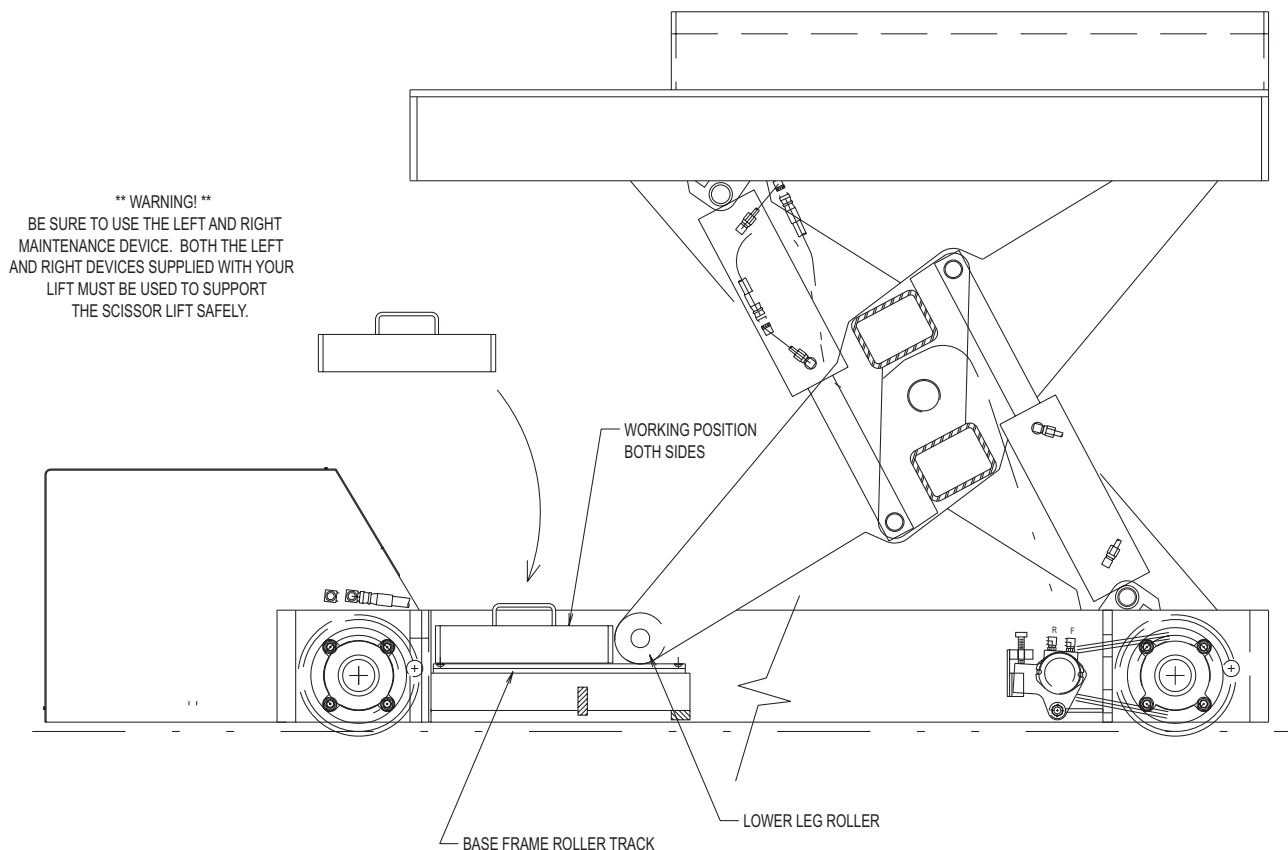

Figure 1 Safe Servicing of the Lift
- **Move the maintenance devices** into position as shown in Figure 1. Lower the table so the rollers are resting firmly against the devices. **Note:** Some Coil
Be sure to use both the left and right maintenance devices. Both the left and right devices supplied with your machine must be used to support the table safely during routine maintenance see Figure 1.